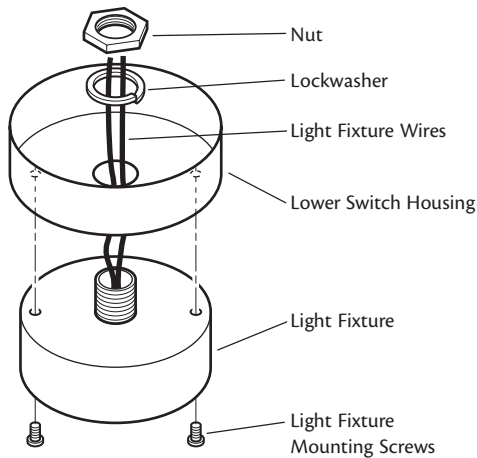

Figure 28 - Attaching the light fixture
Refer to Figure 28.
5. Screw the fixture into the lower switch housing. Thread the lockwasher and nut provided over the wires. Making sure the light fixture mounting screw holes are aligned; hold the light fixture and tighten the nut on the inside of the lower switch housing. Insert and tighten the two #6-32 sems light fixture mounting screws. Refer to Figure 28.